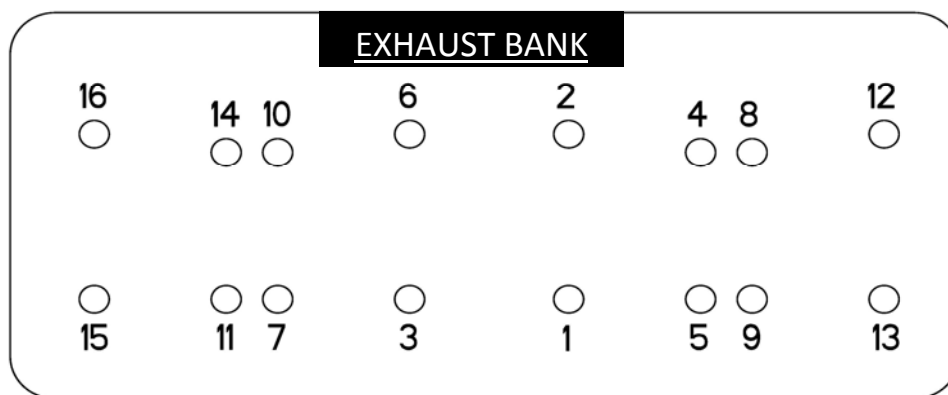

Figure 1 - Head Nut Loosening/Tightening Sequence
- 1) Using two standard M8 X 1.25 nuts, remove old cylinder studs from case in the order shown on Figure 1. Remove the studs by tightening both nuts back to back on the stud. With a wrench on the lower nut, back out the old stud. A small amount of heat may be required to loosen the studs.
- 6) Using the same torque sequence as show below in Figure 1: Tighten the head nuts down evenly to achieve **18 lb-ft minimum to 22 lb-ft maximum**.